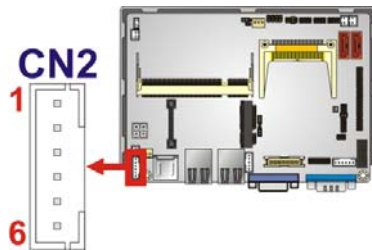

Figure 3-9: LED and +5 V Power Output Connector Location
- CN Location:** See **Figure 3-9**